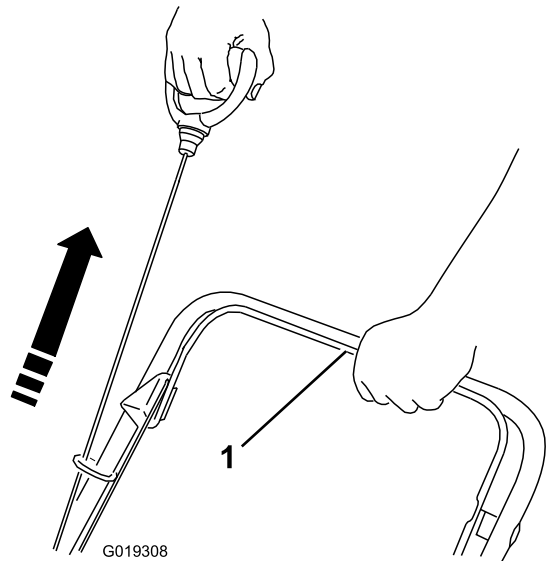

Figure 17
2. Hold the blade-control bar against the handle and pull the recoil starter (Figure 17).
To stop the engine, release the blade-control bar (Figure 17).